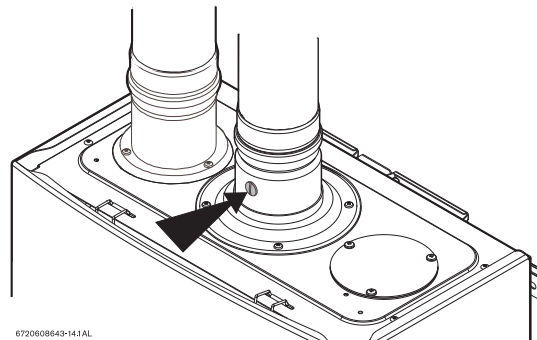

Fig. 65 Measuring port
- ▶ Remove brass flat head screw on the exhaust collar as seen in Fig. 65.